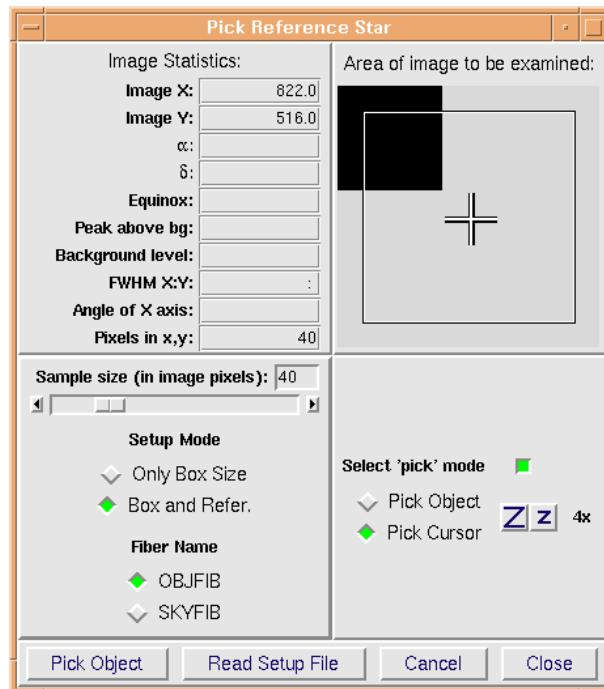

Figure 6.4: Window to set FEROS fibre reference position **Pick Reference Star**. Select checkbox **Pick Cursor**.
- a. Open or activate window **Pick Reference Star** (Fig. 6.4, p. 67).